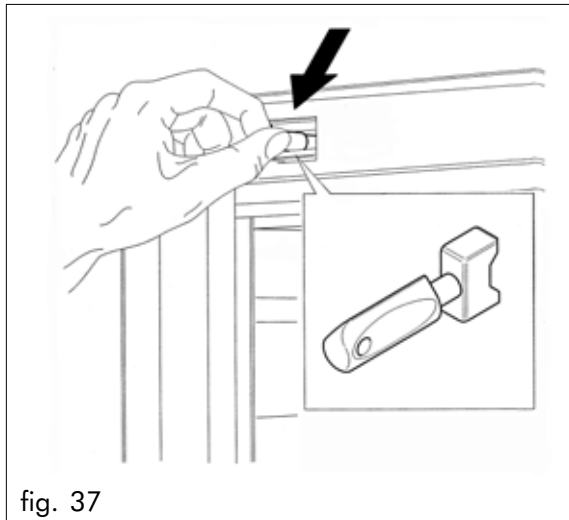

fig. 37
For competent technicians only, it is possible to operate like that by inserting the special plastic key, supplied with the distributor, into the door switch, rotating it 90° (fig.37).
- Insert the key in the door switch (fig.37) and wait until the column is positioned in the cup dispensing ring.